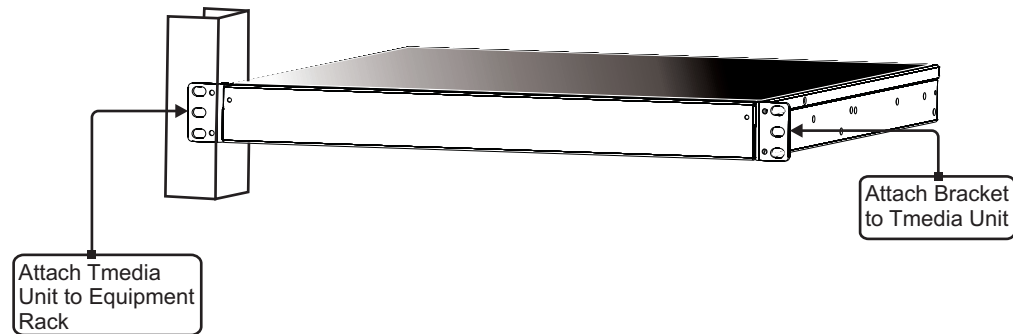

Figure 2.1 Mounting the TMP800
1. Using two metal screws, attach one angle bracket to the front, left-hand side of the TMP800 when viewed from the front, as shown in Figure 2.1 on page 10. Repeat the same for the angle bracket on the right-hand side.